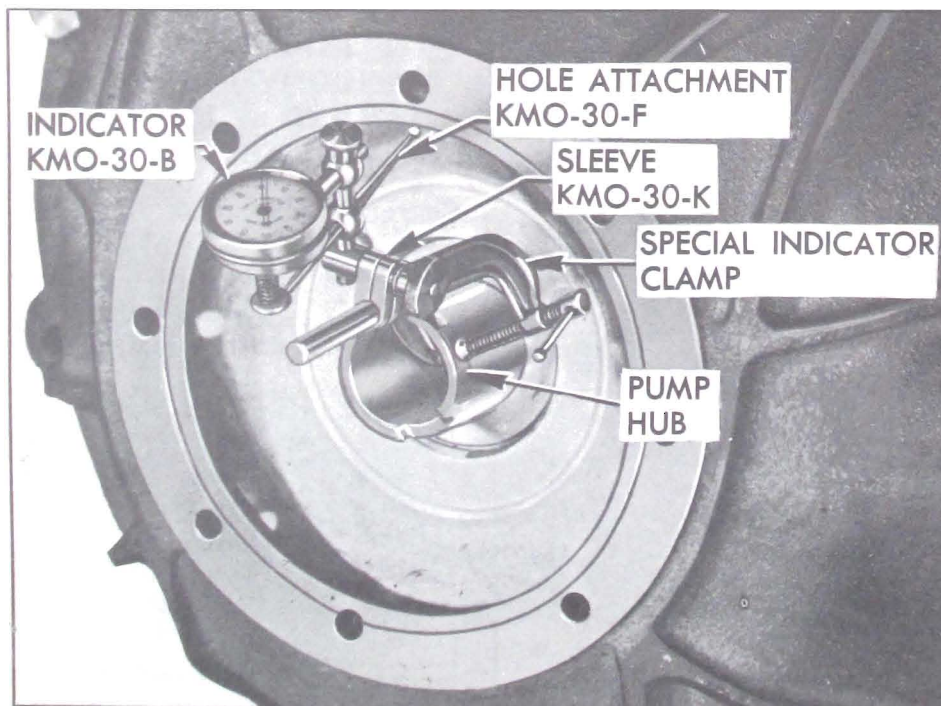

Figure 5-71—Checking Run-Out of Bell Housing Pilot Hole
8. Mount dial indicator and Hole Attachment KMO-30-F to bear against inner edge of pilot hole in housing. See Figure 5-71. Run-out of pilot hole should not exceed .004".
10. Set up dial indicator as shown in Figure 5-71 and bring pilot hole of housing within .004" run-out by tapping in required direction with lead hammer. If it is not possible to move housing far enough, remove housing and drill bolt holes with 1/2" drill. When housing is placed so that pilot hole run-out is .004" or less, tighten all bolts securely.